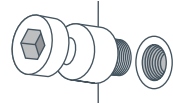

Fig.2a Fixed threaded stud hole and handle attachment stud
- 1 Insert the handle attachment stud into the fixed threaded holes (fig.2a) found on the front of each compartment door and tighten using the Allen key provided in a clockwise direction.